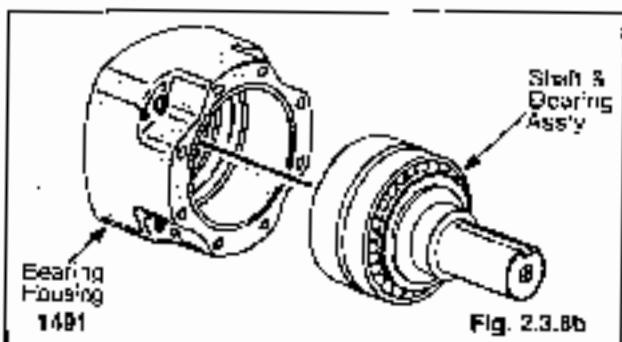

Fig. 2.3.8b
2. Install the shaft and bearing assembly in the housing (fig. 2.3.8b). A press may be required to install the shaft and bearing assembly.